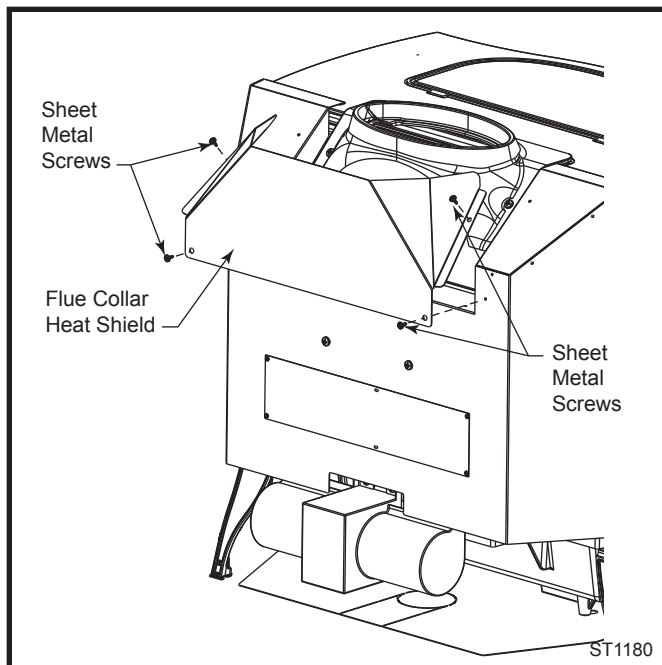

Fig. 24 Install flue collar heat shield.
**WARNING:** The flue collar heat shield must be attached to the Defiant stove. Use four #10 sheet metal screws supplied to secure the flue collar heat shield to the rear of the stove. (Fig. 24)